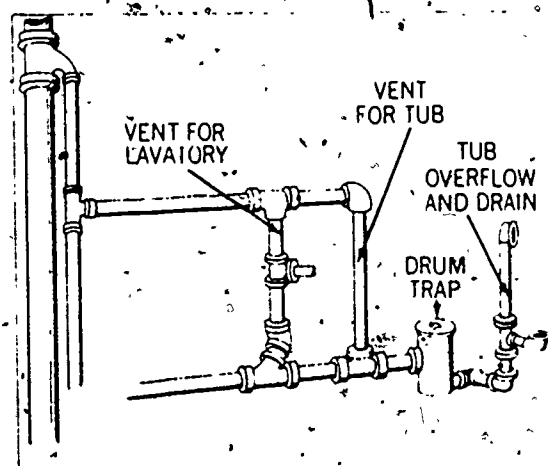

Figure 3-10 Rough-in plumbing for a small bathroom
**Bathtub and Shower Vents and Drains.** Waste lines for draining bathtubs and showers are usually located below the floor level on which the fixtures are installed. In small residential bathrooms, the tub is normally positioned so that the waste and vent pipes which serve it also serve other fixtures in the bathroom, as shown in figure 3-10. The tub overflow and drain assembly is not included in the rough-in piping, because it is attached directly to the tub at the time the tub is set. The drum trap is included in the rough-in plumbing and must be installed when the waste line is installed. The minimum size for a waste pipe for a bathtub is 1 1/2 inches. When a shower head is installed over the tub, no increase in the size of the waste pipe is necessary.